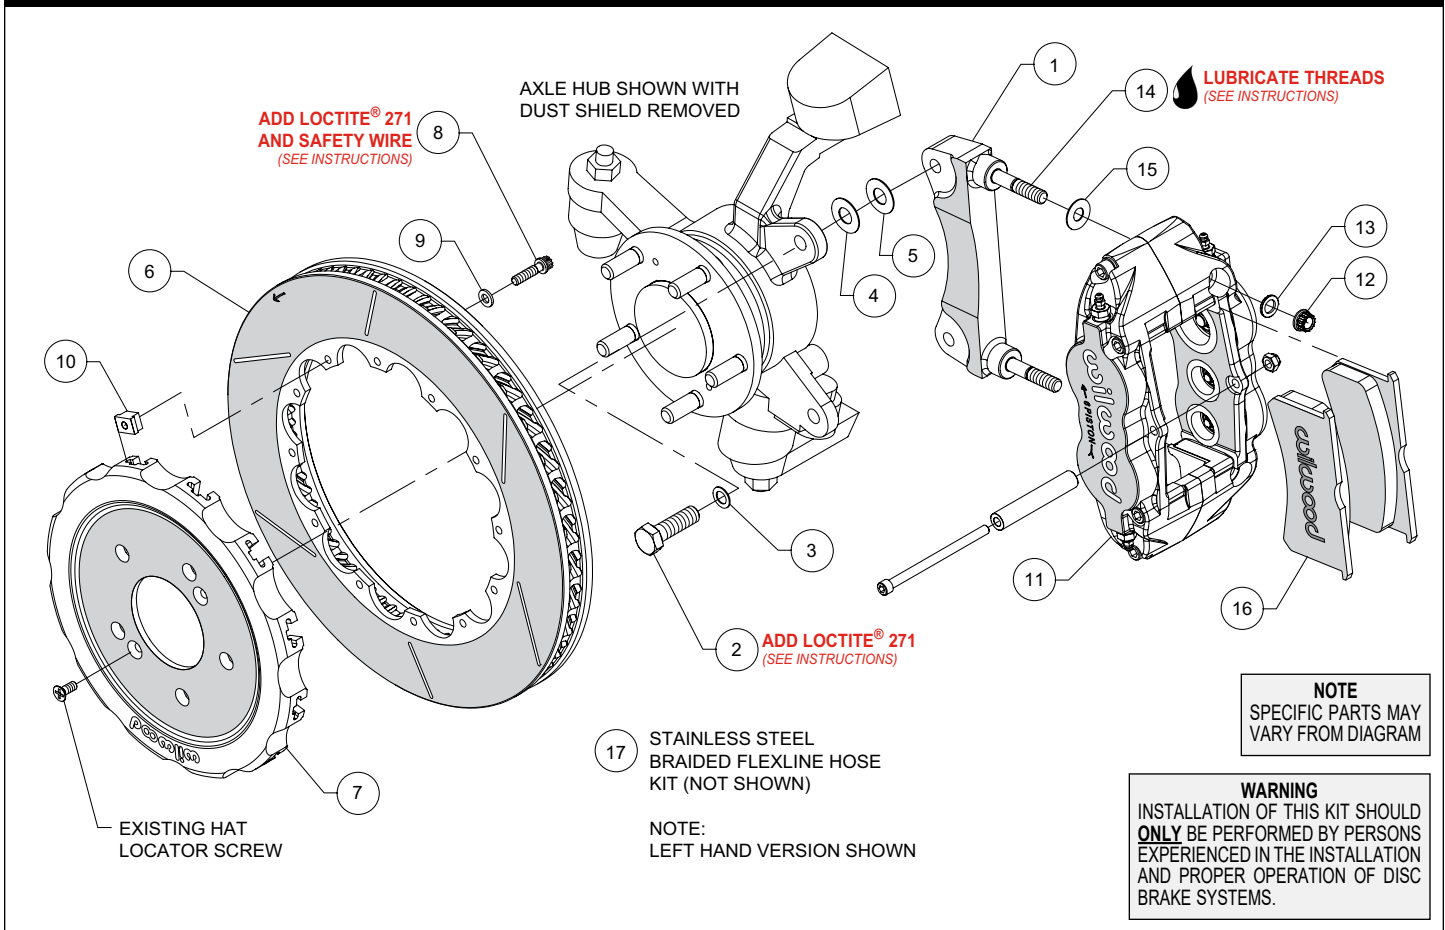
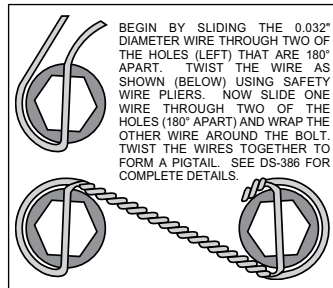

Figure 1. Typical Installation Configuration
Figure 3. Safety Wire Diagram
NOTE: Numbers in parenthesis refer to the parts list and Figure 1 on the preceding pages.
- The caliper mount bracket (1) should initially be installed with clean, dry threads on the mounting bolts. Orient the bracket, as shown in Figure 1 and Photo 1, and install using bolts (2) and washers (3). Initially place one .033" thick shim (4) on each bolt between the bracket and upright, Figure 1. Temporarily tighten the mounting bolts. **NOTE:** The bracket must fit squarely against the mount bosses on the upright. Inspect for interference from casting irregularities, machining ridges, burrs, etc. Later, after the caliper alignment has been checked, the mount bolts will be secured using red *Loctite*® 271.
- Orient the rotor (6) and the hat (7) as shown in Figure 1 and Photo 2. Attach rotor to hat using bolts (8), washers (9), and t-nuts (10). Follow additional instructions included with the bolt kit. Apply red *Loctite*® 271 to the bolt threads and torque to 120 **in-lb** using a criss-cross pattern. Safety wire bolts using standard 0.032 inch diameter stainless steel safety wire as shown in Figure 3. Please refer to Wilwood's data sheet DS-386 (available at www.wilwood.com/Pdf/DataSheets/ds386.pdf) for complete safety wire installation instructions.
- NOTE:** This kit contains distinct right and left hand calipers that must be mounted in a specific direction, as described below. Lubricate the caliper mounting studs (14) with lightweight oil. Initially place one .035" thick shim (15) on each stud between the caliper and the bracket, as shown in Figure 1 and Photo 4. Mount the caliper (11) onto the bracket (1) using lock nuts (12) and washers (13), Figure 1. Ensure that the caliper is mounted so the largest pistons are at the rotor exit end of the caliper, in relation to the direction of rotor rotation. Temporarily tighten the lock nuts and view the rotor through the top opening of the caliper. The rotor should be centered in the caliper, Photo 5. If not, adjust by adding or subtracting shims (4 and/or 5) between the bracket and the upright. Always use the same amount of shims on each of the two mounting bolts. Once the caliper alignment is correct, remove the bracket mounting bolts (2) one at a time, apply red *Loctite*® 271 to the threads, and torque to 60 ft-lbs.
- Remove the caliper center bridge pad retainer bolt, nut, and tube from the caliper. Insert the brake pads (16) into the caliper, with the friction material facing the rotor, as shown in Photo 6. Check that the top of the brake pad is flush with the outside diameter of the rotor, Photo 7. If not, adjust by adding or subtracting shims (15) between the caliper and the bracket. After the caliper pad height is set, torque the caliper lock nuts (12) to 30 ft-lb. Secure the brake pads in place with the center bridge pad retainer tube, bolt, and locknut, Photo 8. The locknut should be snug without play in the bolt or tube. Be cautious not to over tighten.